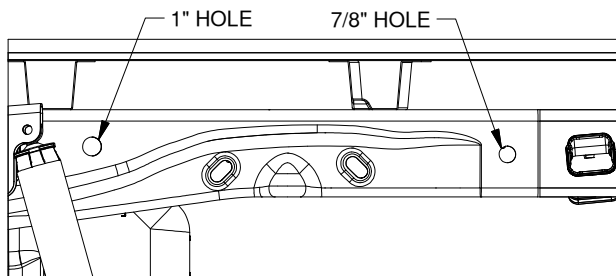
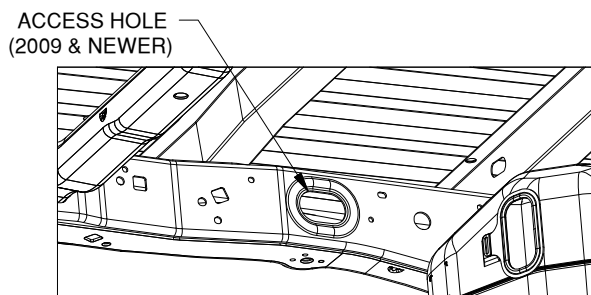

Figure C1: View looking into driver side wheel well.
Figure C2: View looking at inside of driver side frame.
1. **Prepare for hardware installation.** Locate two 1/2" X 1-1/2" carriage bolts, locking straps, and fish wires. On the driver side of the frame identify the 1" hole and the 7/8" hole where the hardware will mount, see Figure C1. Locate the access hole on the inside of the frame, see Figure C2. (Trucks older than 2009 will use the hole where the axle bumper was removed.)